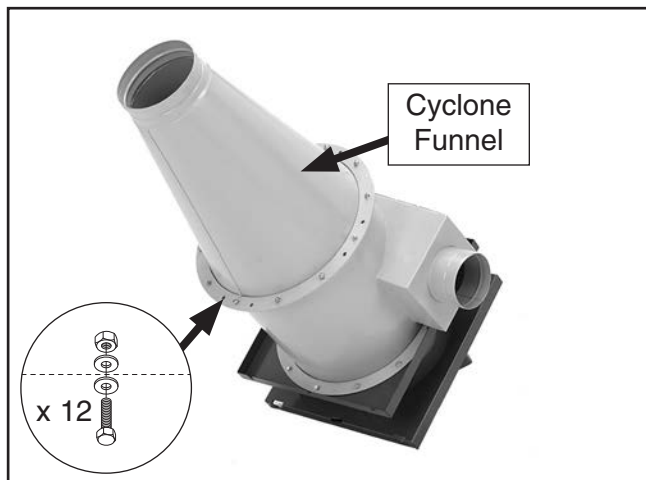

Figure 11. Cyclone funnel attached to intake barrel.
9. Attach cyclone funnel to intake barrel, as shown in **Figure 11**, with (12) $\frac{5}{16}$ "-18 x 1" hex bolts, (24) $\frac{5}{16}$ " flat washers, and (12) $\frac{5}{16}$ "-18 lock nuts.